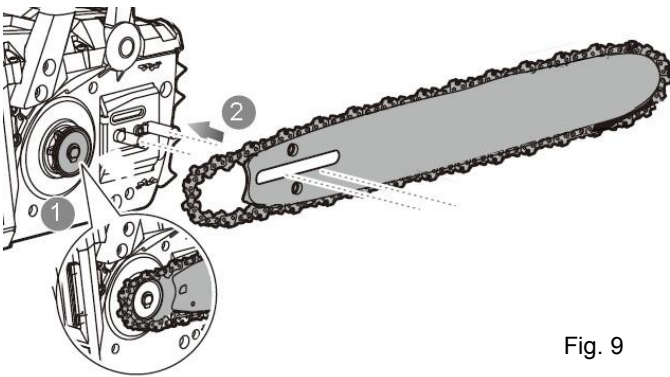

Fig. 9
- Fit the bar flush against the mounting surface so that the bar studs are in the long slot of the bar. (Fig. 9)